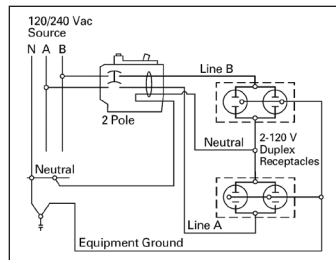
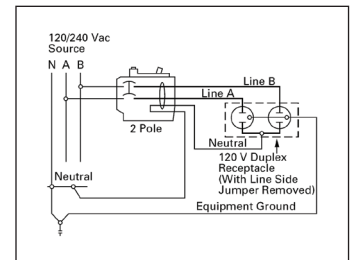

Figure 2. Two-pole, shared neutral with multi-duplex receptacle application
Figure 4. Two-pole, shared neutral with duplex receptacle application
- b Independent trip refers to two-pole multi-wire, home run or shared neutral circuits (see **Figure 2** and **Figure 4**).